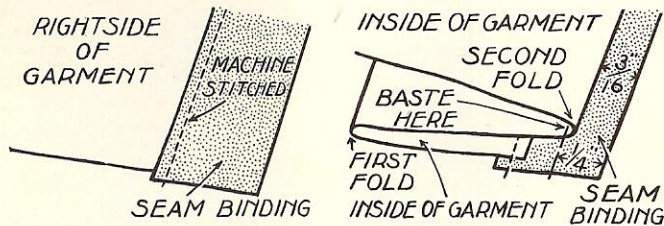

Fig. 11. Preparation of Material for Making Invisible Hem with Seam Binding
#### No. 4. HEM FINISHED WITH SEAM BINDING (See Fig. 11)
- A. Stitch edge of seam binding to raw edge of right side of garment to be hemmed, as shown in Fig. 11.